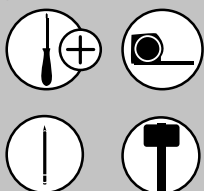

FIG. D-1
Make sure both slides are set back 1/8" from the edge of the face frame while being supported by their rear brackets. Attach both slides to the face frame by using (2) #6 x 1/2" for each slide (See Fig D-1 & D-2).